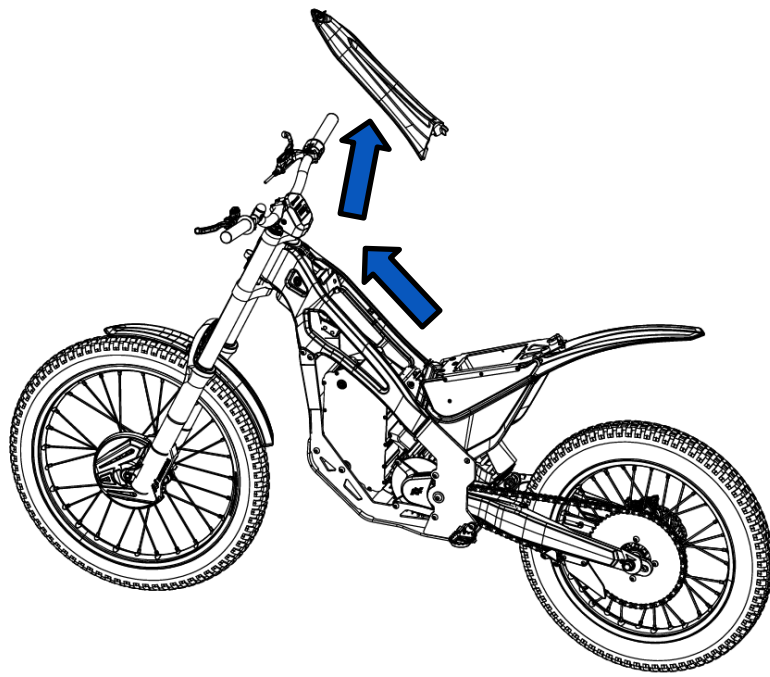

Fig. 41
4- Move the cover forward and then you can remove the upper casing of the motorcycle upwards (Figure 41).
- 4- Remove the top cover of the motorcycle (Figure 41).